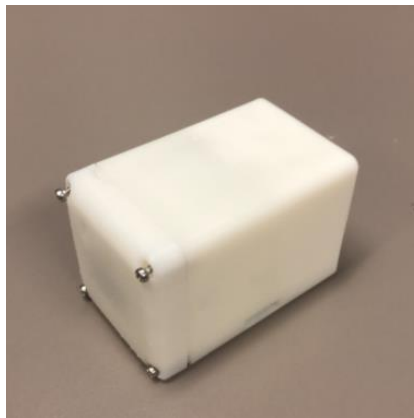

Figure 2-2: Removing the Battery Cover Screws
1. Remove the battery cover by unscrewing the 4x Phillips head screws using a size #1 Phillips head screwdriver (see Figure 2-2).